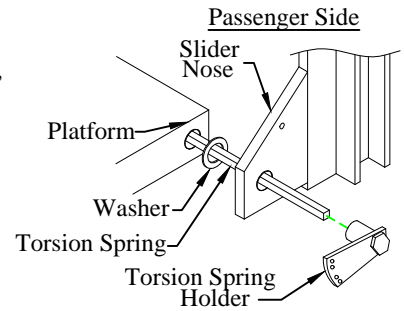

Figure 7: Torsion spring hardware.
9. **INSTALL** the passenger side torsion spring holder over the spring and through the slider nose, washer, and platform (Figure 7).